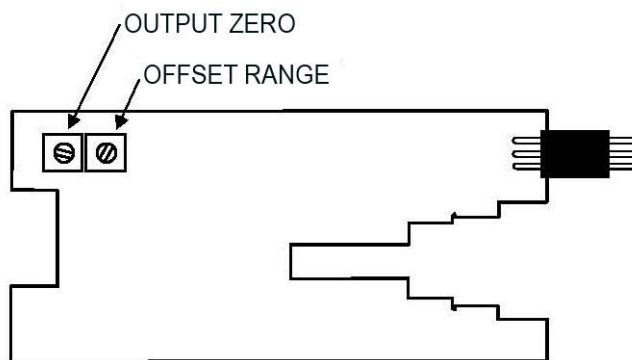

Figure 8 Adjustment Locations S/N 1000 and higher
6. Adjust OUTPUT ZERO on the board until the DMM reads $0\text{ V} \pm 100\text{ }\mu\text{V}$. Refer to Figure 8 Adjustment Locations S/N 1000 and higher for adjustment location.